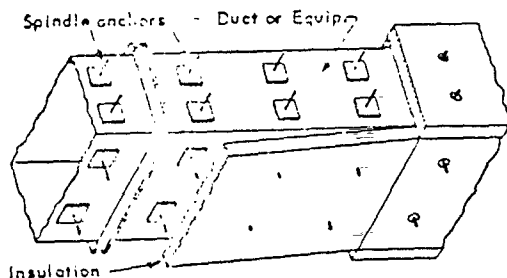

FIGURE 5
4.3 When specified on project or job specification, the blocks may be supported by Spindle Anchors, Code 964, applied to the metal surface by cementing, welding, or spot-welding. See Figure 5.